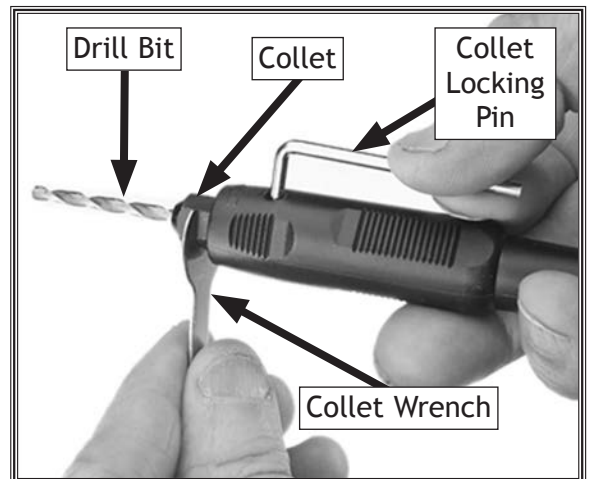

Figure 14. Securing drill bit in flex-shaft collet.
10. Insert collet locking pin into hole on collet and tighten bit with collet wrench by turning clockwise, as shown in Figure 14.